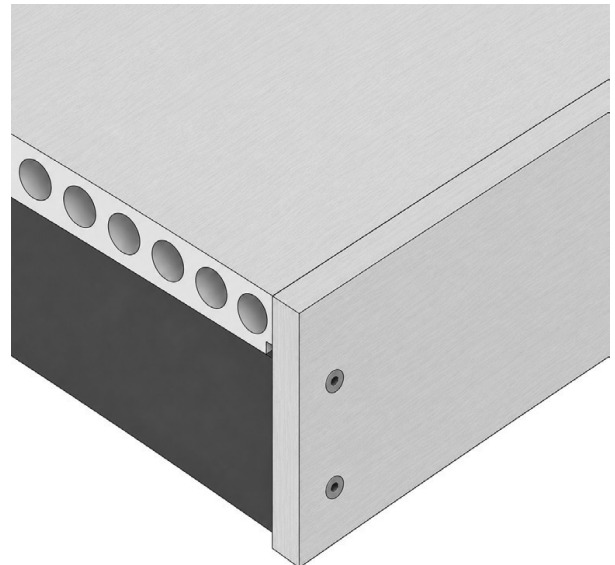

FIG. 24 – COUNTERSUNK PILOT HOLES PRE-DRILLED THROUGH THE FASCIA
- 02 Pre-drill 4 mm countersunk pilot holes through the fascia board to avoid material splitting (fig. 24).